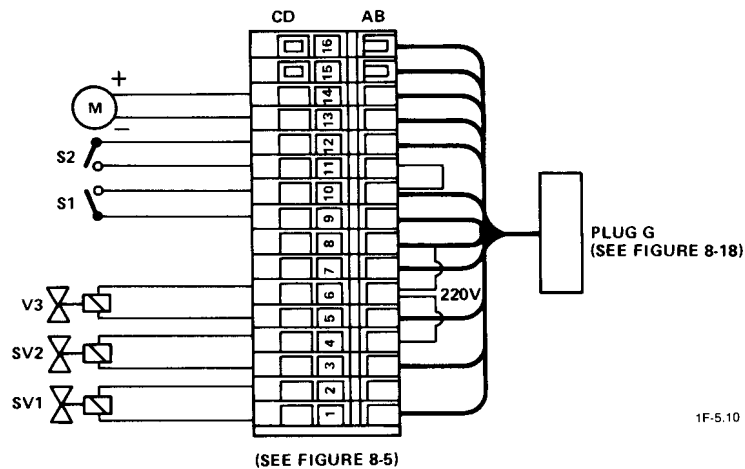

Figure 8-11 - Wiring Diagram for the Terminal Strip
- c. Check the voltage across contacts 5 and 6 of the terminal strip (see Figure 8-11).